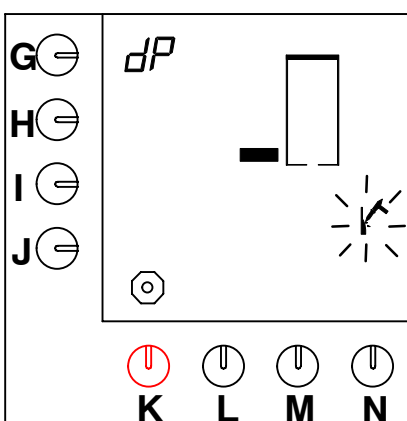

Fig. 24 First level descaling programme hot water system
- The first level block appears on the display and the hammer symbol flashes (fig. 24 ).